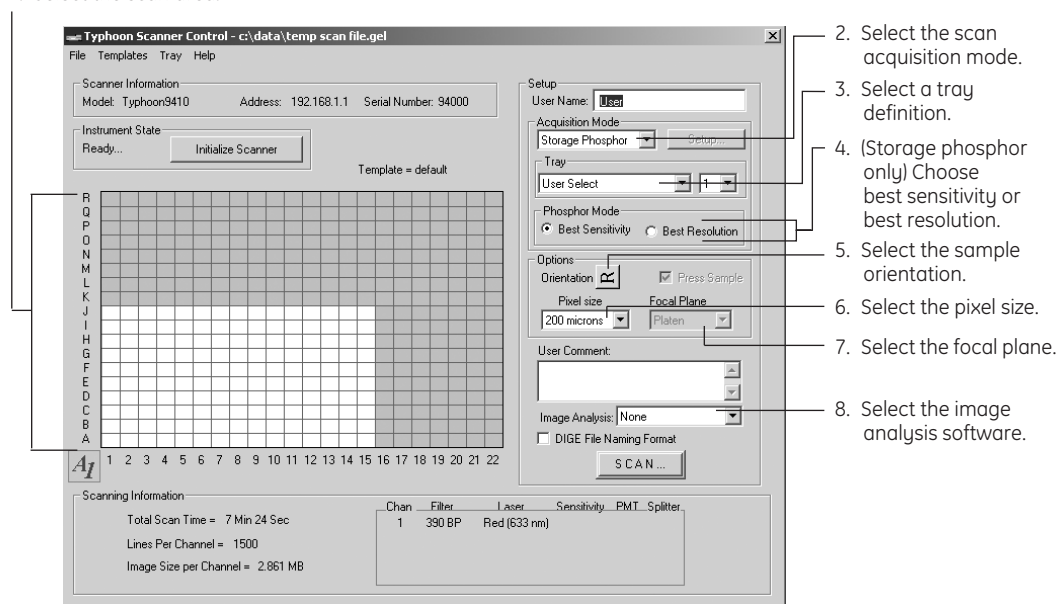

Fig 3-9. Selecting parameters in the Setup area of the Scanner Control window.
- 1 In the Setup area of the Scanner Control window (fig 3-9), select the parameters you want saved with the template. Note that comments in the User Comment box are not saved with the template.